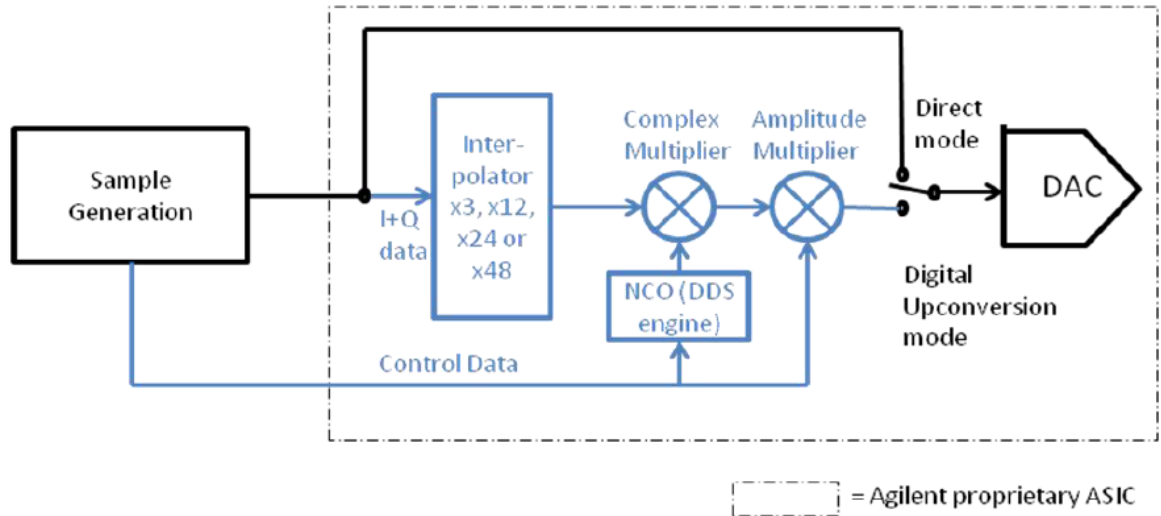

Figure 4-1: Hardware Structure of Features for Digital Up-Conversion
The M8190A provides a direct mode, which allows sending sample data from the sample memory directly to the output of the instrument. Additionally, it provides mechanisms to do IQ modulation internally (highlighted in blue in Figure 4-1). This includes the interpolation of IQ sample pairs from a low input data rate to the sampling rate of the instrument, the generation of a carrier frequency by a Numerically Controlled Oscillator (NCO) and the IQ modulation itself. Control data that is in time aligned to the sample data allows changing settings, like the NCO configuration, at run-time. Therefore, it is possible to change the carrier frequency, the phase and an amplitude multiplier in real time and sequence control. Complex operations, like a frequency sweep are also possible.
- Amplitude Table: stores multiplication factors for the amplitude multiplier (see Figure 4-1). For more details how to program an amplitude table, see :ATABLE Subsystem.